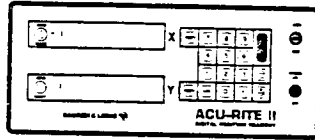

Figure 2
2. Flip the POWER switch to ON (Figure 2). Both the ABS key and the power-fail indicator(s) at the left of the display(s) will light, indicating that the power-fail/fault circuit of the absolute mode is working properly.